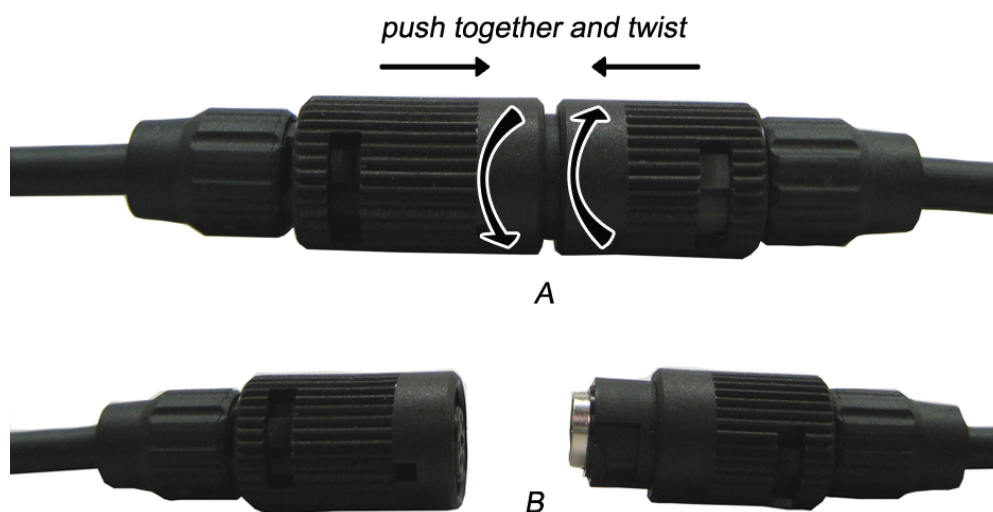

FIGURE 20. Quick Disconnect Connector
1. Holding the quick disconnect in both hands, gently push **each connector end** toward each other (see Figure 20, A).
The connector comes apart (see Figure 20, B).